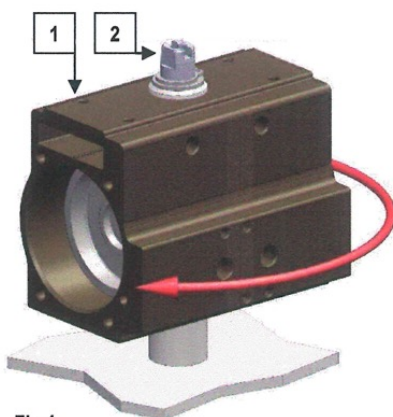

Fig.4
8. Rotate the cylinder (1) in CLOCKWISE direction (top view) holding the pinion (2) so as to release the rack of the pistons (12) from the pinion (2) and to push the pistons towards to the cylinder ends. Now both pistons (12) can be removed see Fig. 4.
- NOTE: Do not use compressed air to remove the pistons (12) from the cylinder (1)